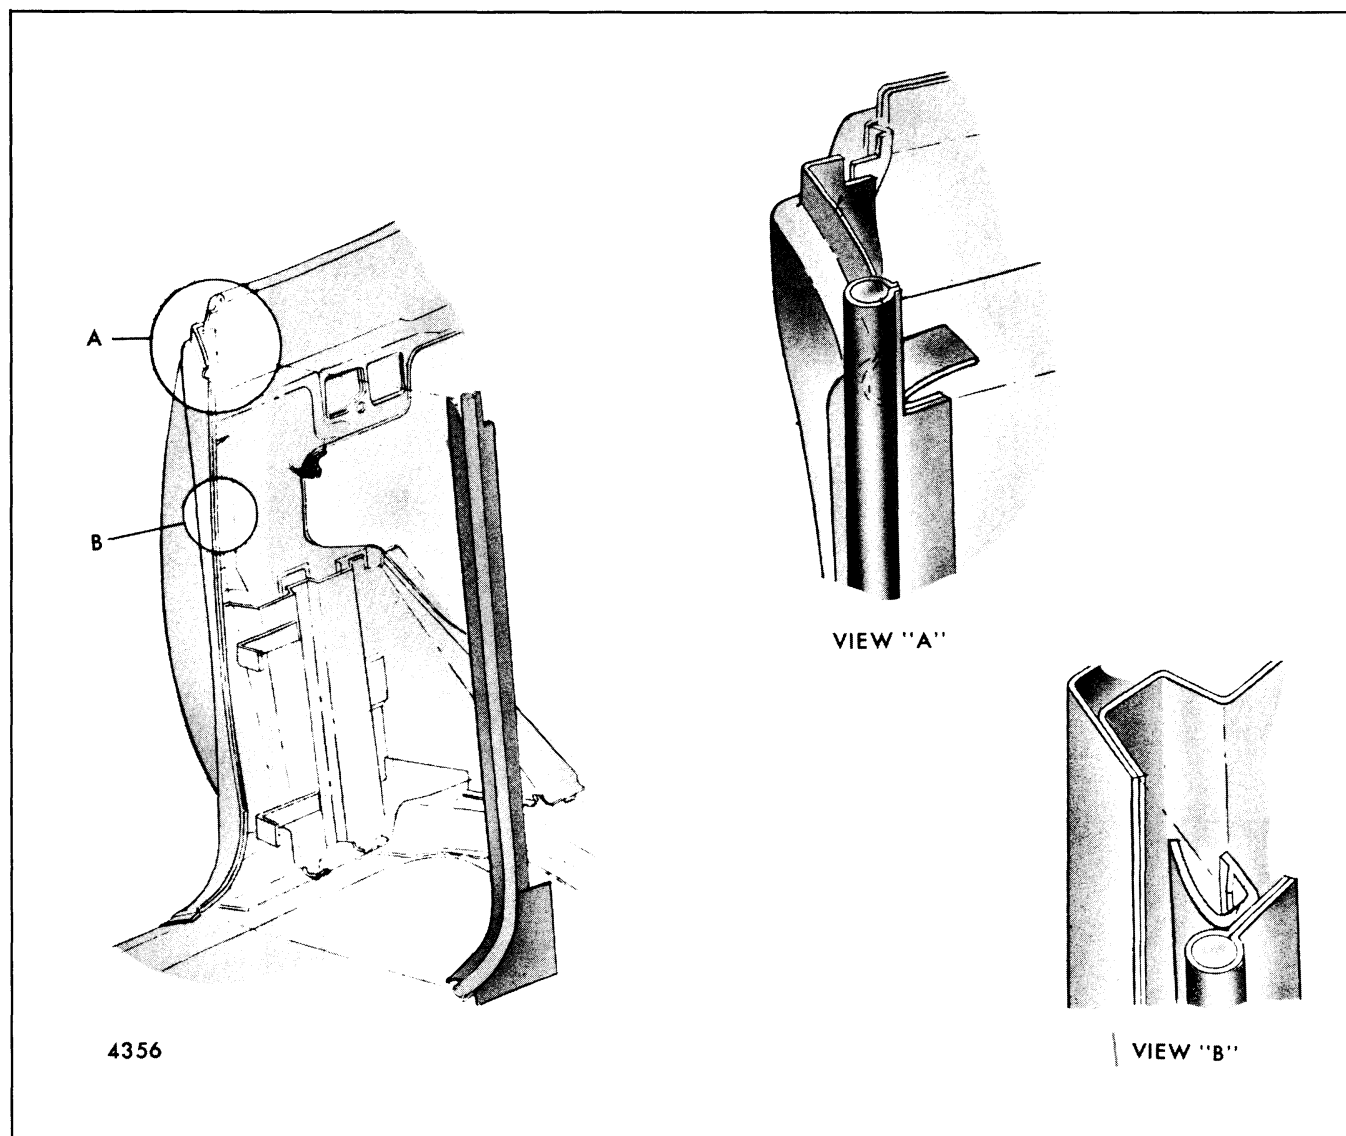

Fig. 6-13-Body Lock Pillar Windlace - "B and C" Styles
2. Pull inboard on the windlace to disengage from the lock pillar (Fig. 6-13).
3. On certain "A" styles a body lock pillar finish molding is installed over the front edges of the upper and lower quarter trim panels. To disassemble remove four (4) attaching screws and pull molding forward.